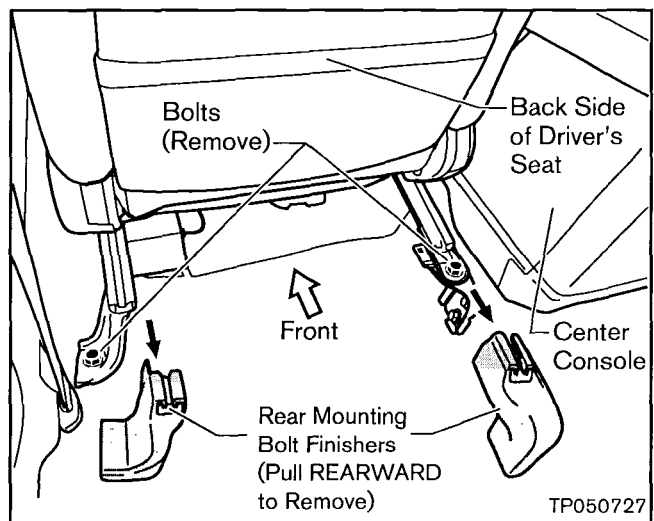

Figure 4
- g. Remove the rear mounting bolt finishers (see Figure 4).
- h. Remove the rear mounting bolts (see Figure 4).